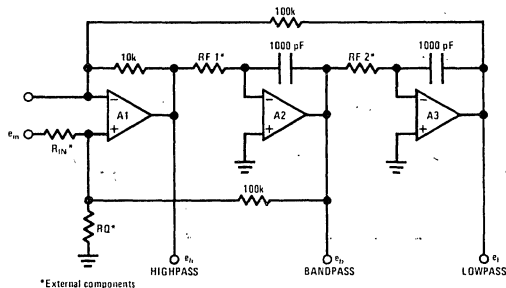

FIGURE 2. Non-inverting Input ($Q > Q_{MIN}$). See Q Tuning Section
The specific transfer functions for some of the most useful circuit configurations using the AF100 are illustrated in *Figures 2 through 8*. Also included are the gain equations for each transfer function in the frequency band of interest, the Q equation, center frequency equation and the Q determining resistor equation.
a) Non-inverting input (Figure 2) transfer equations are: